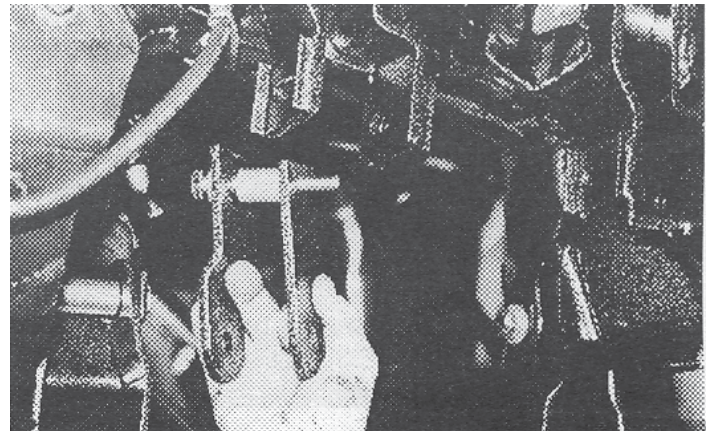

Fig. 15
14. Install DVR side front differential mount using straight bracket "910904" as the outer extension. Use offset bracket "910905" as the inner mount extension. Insert $\frac{1}{2}$ " x 3" bolt, 1- $\frac{1}{4}$ " sleeve, washers and nut provided into upper frame pocket, **Fig. 15**. **Do not tighten fasteners at this time.**